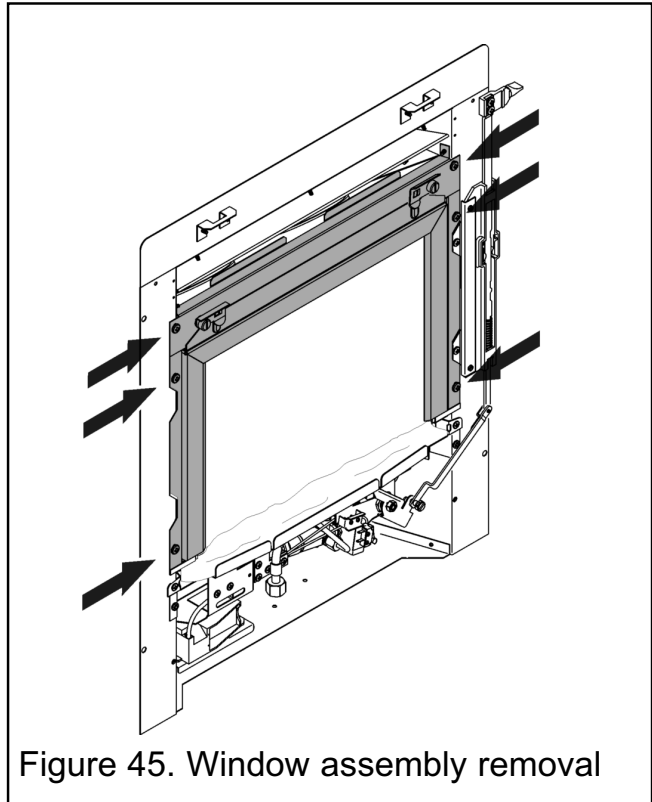

Figure 45. Window assembly removal
2. Unscrew and remove the six screws that secure the window mounting frame and window assembly. Remove and place away from the work area (See figure 45).